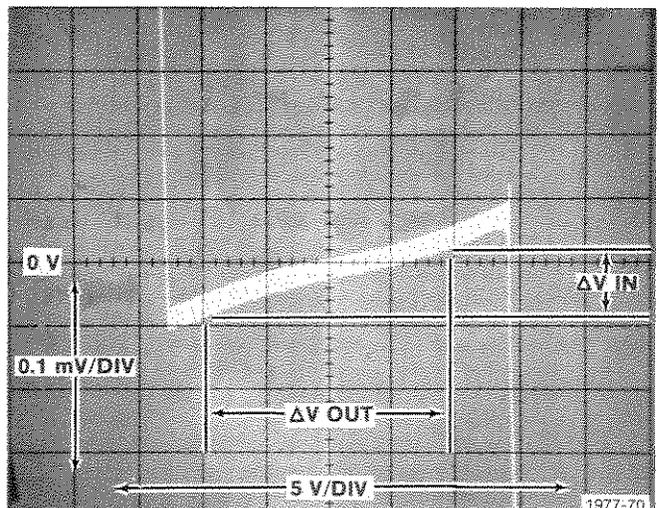

Fig. G-7. Output voltage swing.
- c. Check the output voltage swing. This is measured by noting the voltage as represented by the extremes of the horizontal deflection (see Fig. G-7).